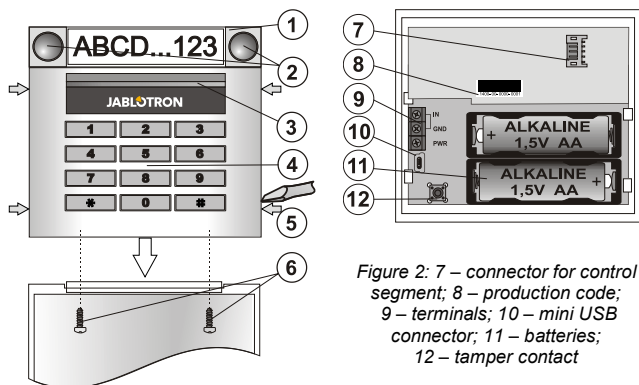
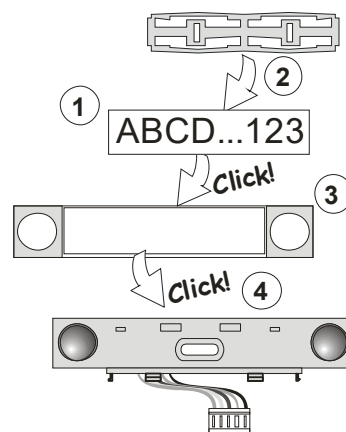

Figure 1: 1 – control segment;
Figure 3: Insertion of a label into a control segment
- Press the four tabs (5) on the sides (see figure 1) one by one and release the module from the plastic base.
- Connect the segment wires to the internal connector of the module (7).
- When batteries are inserted, the yellow backlit activation button (3) starts to light permanently which indicates that the module has not been enrolled to the system yet.
- Press the backlit activation button (3) – the module is thus enrolled and the yellow LED indicator goes off (this can take a few sec). An enrollment signal can also be sent by inserting the batteries.
- When you have completed installation, insert descriptive labels behind the segment transparent covers and close them, see figure 3. Label printing is a part of the F-Link software (**Devices** window, at the module position – **Internal settings**).